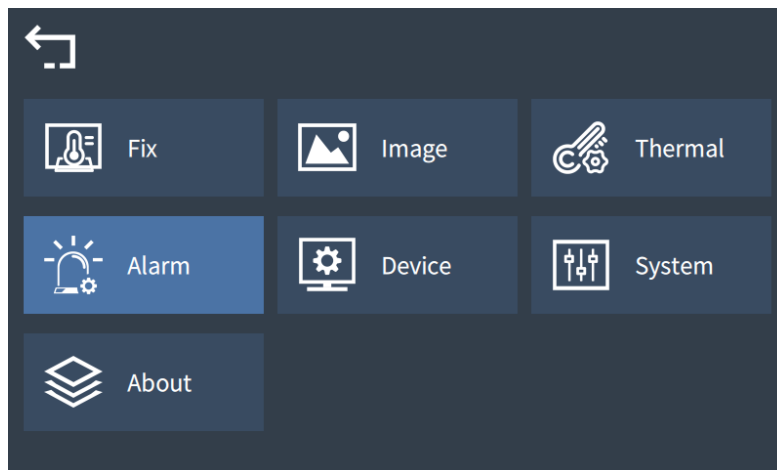

Figure 4.11 Setting interface
Step 2: Touch or press a physical button to switch to , Press the physical "OK" key to enter the setting interface (as shown in Figure 4.11);